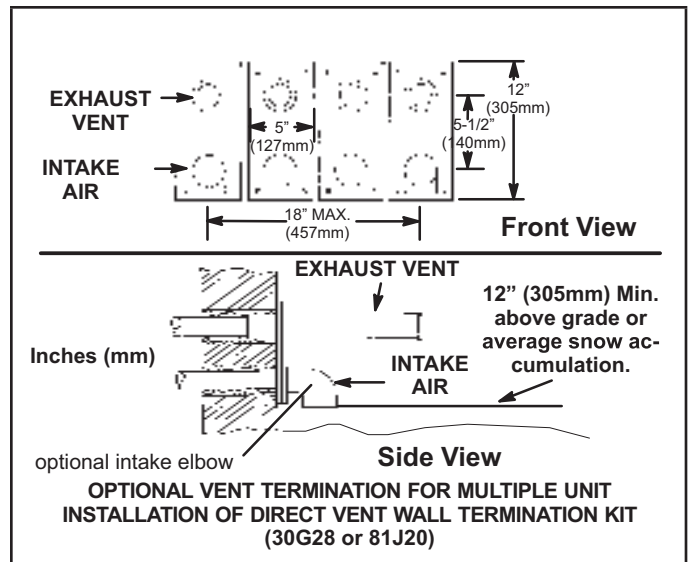

FIGURE 33
- 8 - A multiple furnace installation may use a group of up to four terminations assembled together horizontally, as shown in FIGURE 33
- 2 - Use a large flat head screw driver or a 1/2" drive socket extension and remove plug (figure 33) from the cold end header box at the appropriate location on the side of the unit. Install provided 3/4 NPT street elbow fitting into cold end header box. Use Teflon tape or appropriate pipe dope.